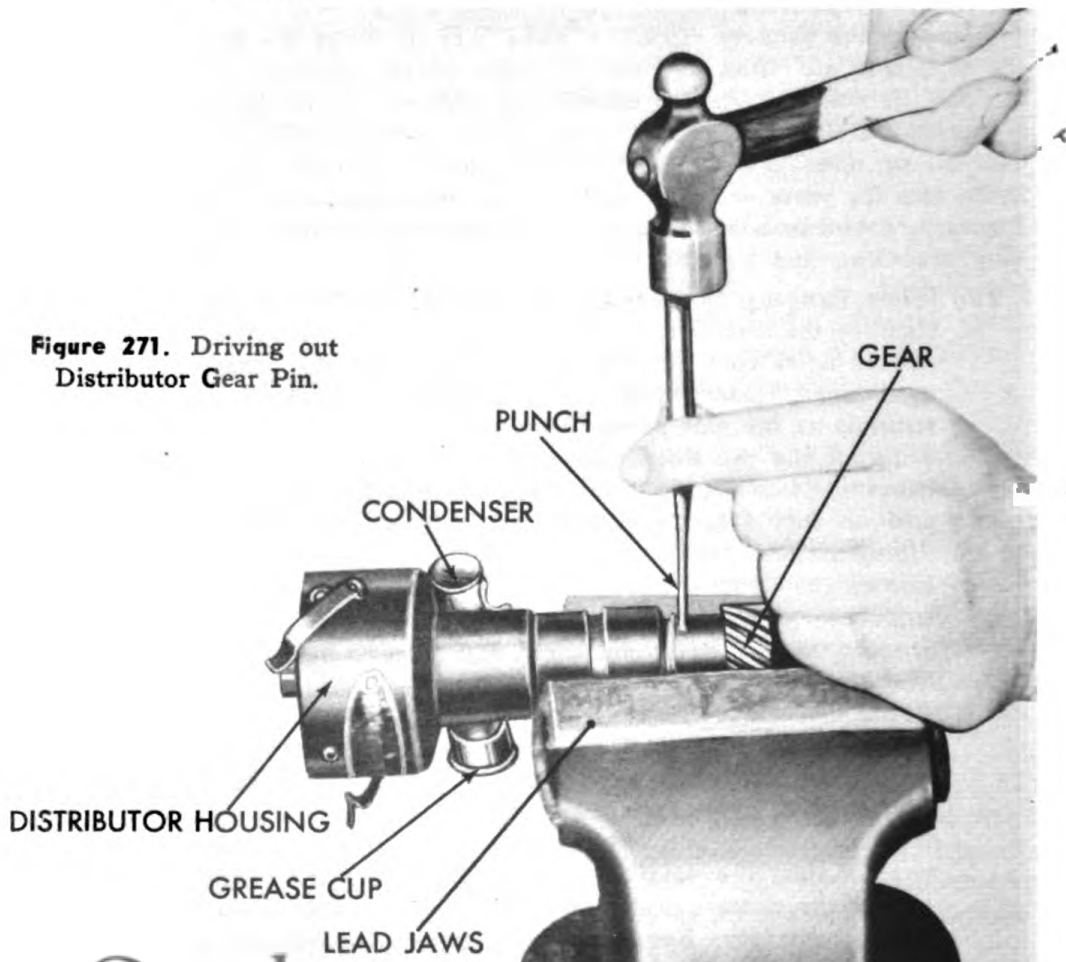
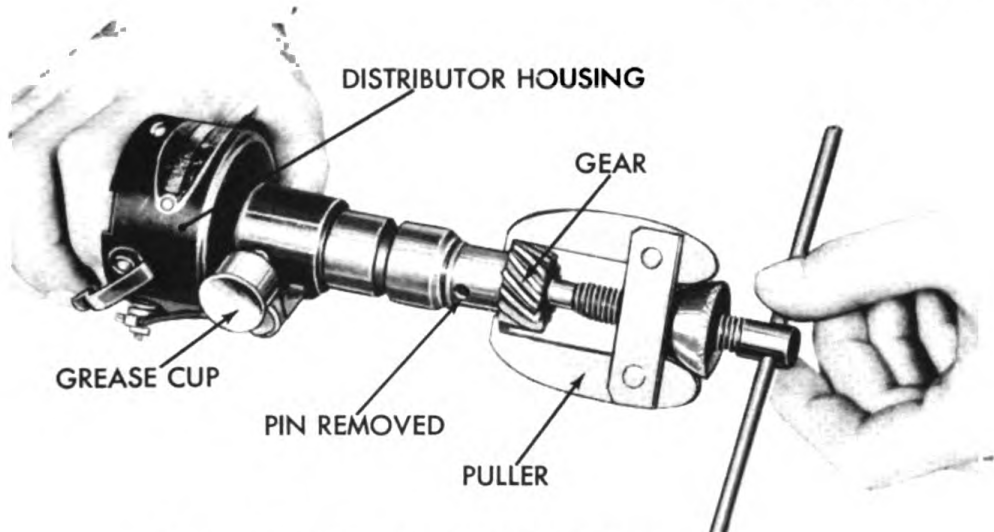

Figure 271. Driving out Distributor Gear Pin.
Figure 272. Removing Distributor Gear.
- c. Unscrew adjustment locking screw and lift off stationary contact point support. Drive out the gear pin as shown in figure 271 and with a small wheel puller as shown in figure 272 slide the gear off the shaft.
- d. Remove terminal stud, first, from inside, remove nut (5/16" wrench) lock washer, and condenser clip. Second, from outside remove the terminals stud in order named: nut, lockwasher, nut, lockwasher, flat washer and insulating washer. Stud can now be removed with bushings and insulating washer. See Fig. 272.
- b. Assemble the gear on the shaft and put rivet in place as shown in figure 271.